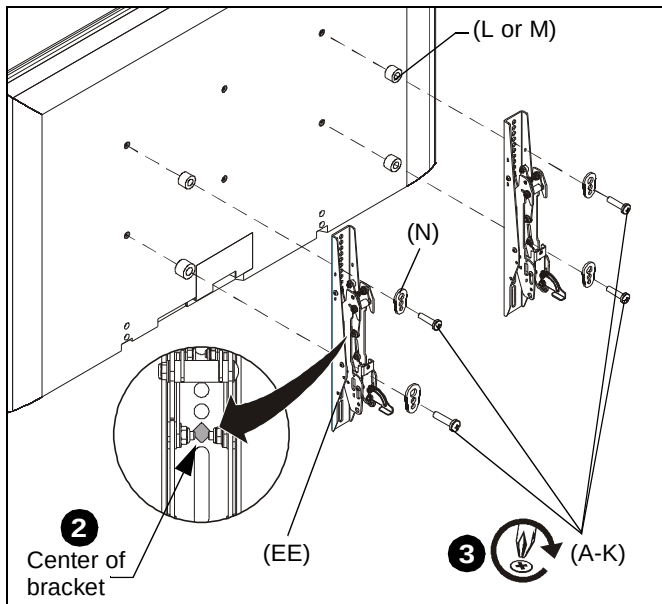

Figure 8
- Align the center of the interface bracket (EE) with center of screen. (See Figure 8)
- Select correct screws, spacers (if necessary) and universal washers from the hardware bag (A-N) and attach brackets (EE) to back of screen. (See Figure 8)